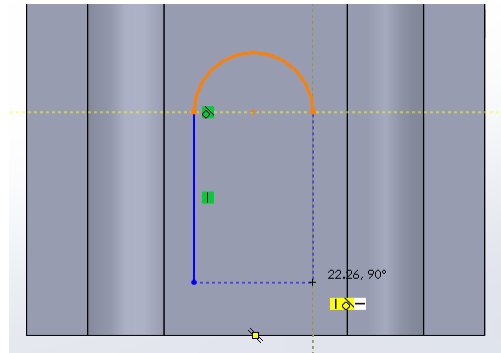

Fig26
Move the pointer so as to get a tangential half circle (Fig26).
- horizontally to the starting point of the very first element of the chain (Fig26).